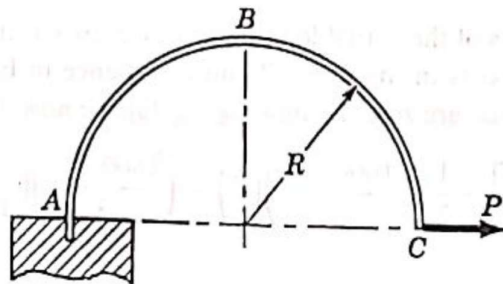

Fig.Q.4(a)
- Q.4(a) A circular bar is bent into the shape of a half ring and supported vertically as shown in Fig.Q.4(a). Determine the horizontal movement of point C. [5] CO4 Evaluate